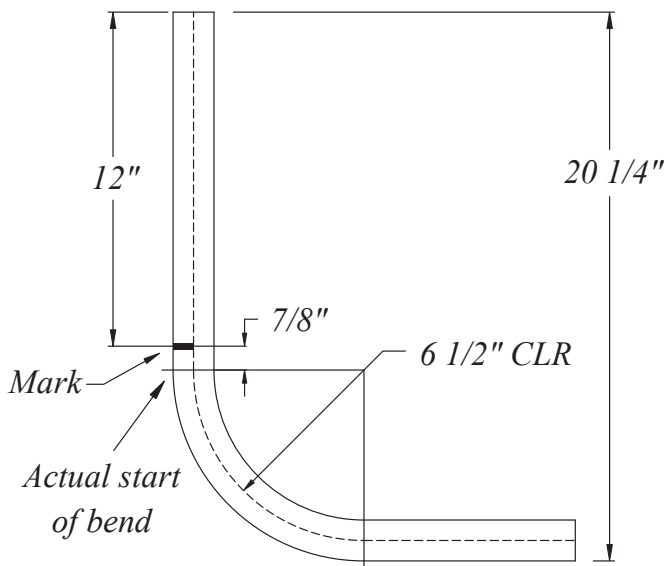

Figure 26
- D) With the tube bent correctly to 90 degrees locate the actual start of the bend. To do this, measure from the end of the tube to the far end of the 90 degree bend. In the example in figure 26 this came out at 20 1/4". Subtract 6 1/2" for the centerline radius (CLR) of the Bending Die, another 3/4" for the radius of the tubing not seated in the die, and 1/8" for springback. (Substitute the CLR and tube radius to match your die set). The 1/8" figure for springback is an approximation, not an exact figure. However it is usually very close to the real thing and may be used without worry to determine the actual starting location of the bend. So: